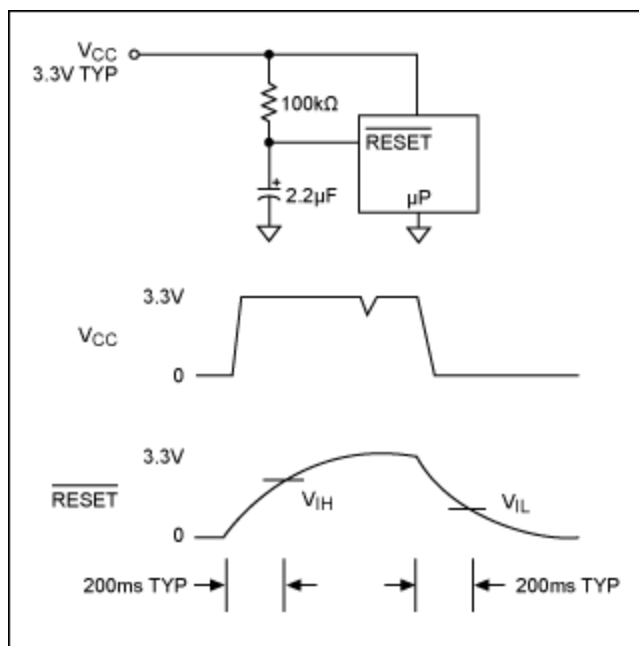

Figure 1. Resistor-capacitor reset delay circuit.
A common approach that is inexpensive but risky is to delay the reset signal using a resistor-capacitor (RC) lowpass filter at the microprocessor's reset-input pin (**Figure 1**). You can select the component values to provide a wide range of reset delays based on a slow, exponential RC rise time. As the capacitor charges from ground to  $V_{CC}$ , the voltage crosses a threshold recognized by the microprocessor as a valid (high) input voltage ( $V_{IH}$ ). This action releases the processor from reset, and it should (ideally) begin normal operation. Unfortunately, this approach has several drawbacks.